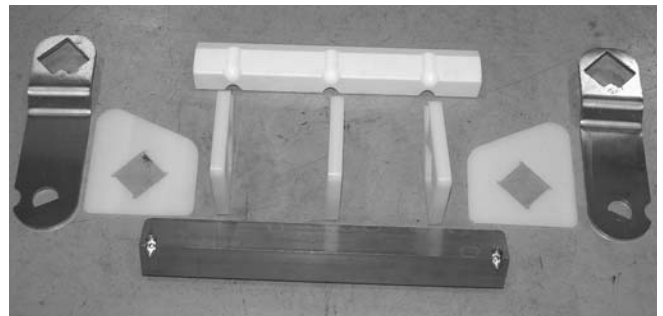

Figure 103
- Replace components, as needed (Figure 103).